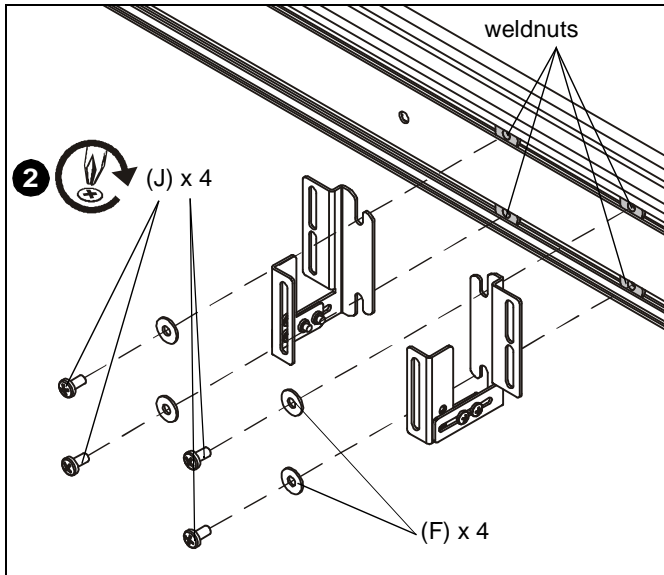

Figure 4
2. Attach configured brackets to weld nuts using four 1/4-20 x 1/2" Phillips pan head screw (J) and four 1/4" flat washers (F) into installed weldnuts (E). (See Figure 4)